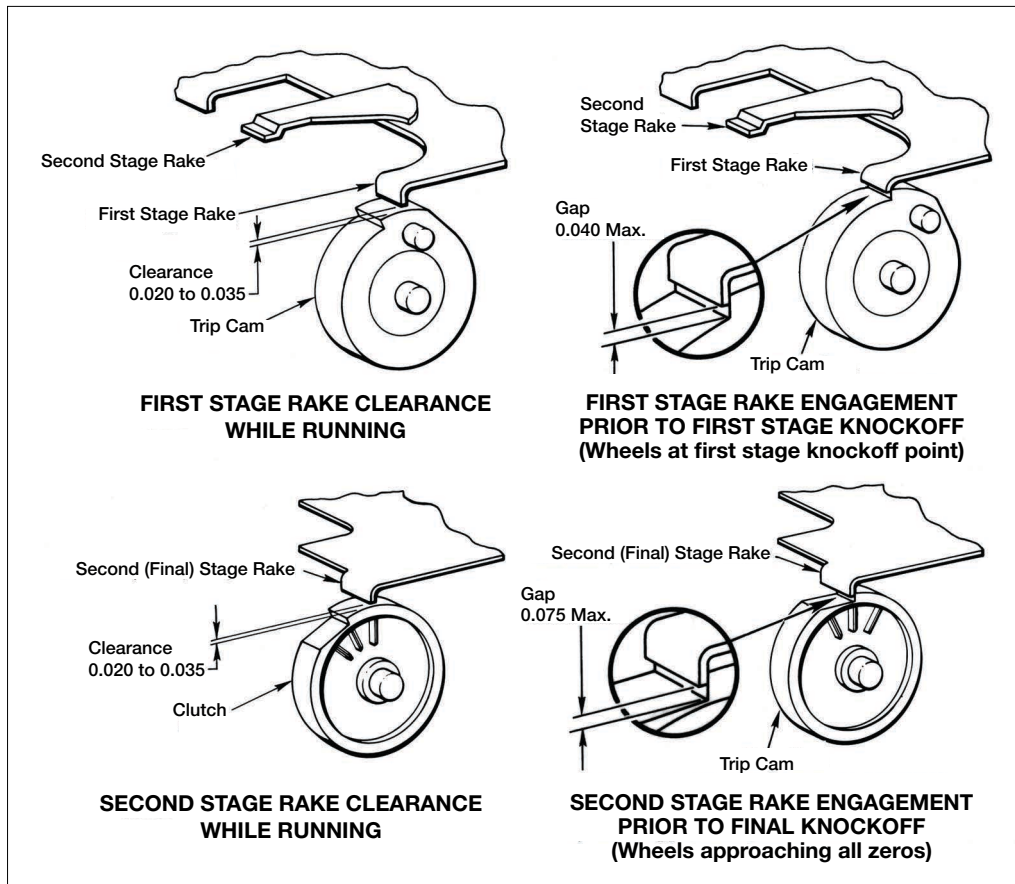

Figure 9. Rake Positioning
2. Using extreme caution, bend the rake fingers to obtain proper rake positioning (see Figure 9).